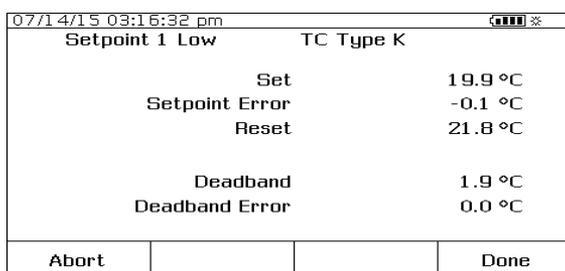

Figure 7. Post-test summary, with all results normal.
- d. Once the post test summary is displayed, review the results. If all results are in normal video (as in Figure 7), the As Left test passes.